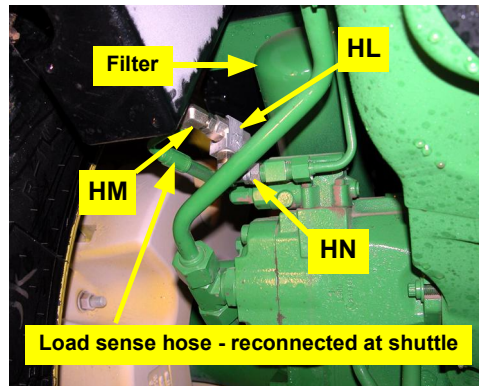

Figure 6c: Installed load sense shuttle - regular flow pump shown (the filter identifies the pump as regular flow)
- c. Attach the load sense shuttle's elbow swivel adapter **HN** to the load sense actuator. Reconnect the tractor load sense hose to load sense shuttle adaptor **HM** (Figure 6c).
**NOTE:** *Figure 6c shows a regular flow pump. Install the load sense shuttle with adapter **HO**. You will connect the load sense hose from the hydraulic steering block to **HO**.*